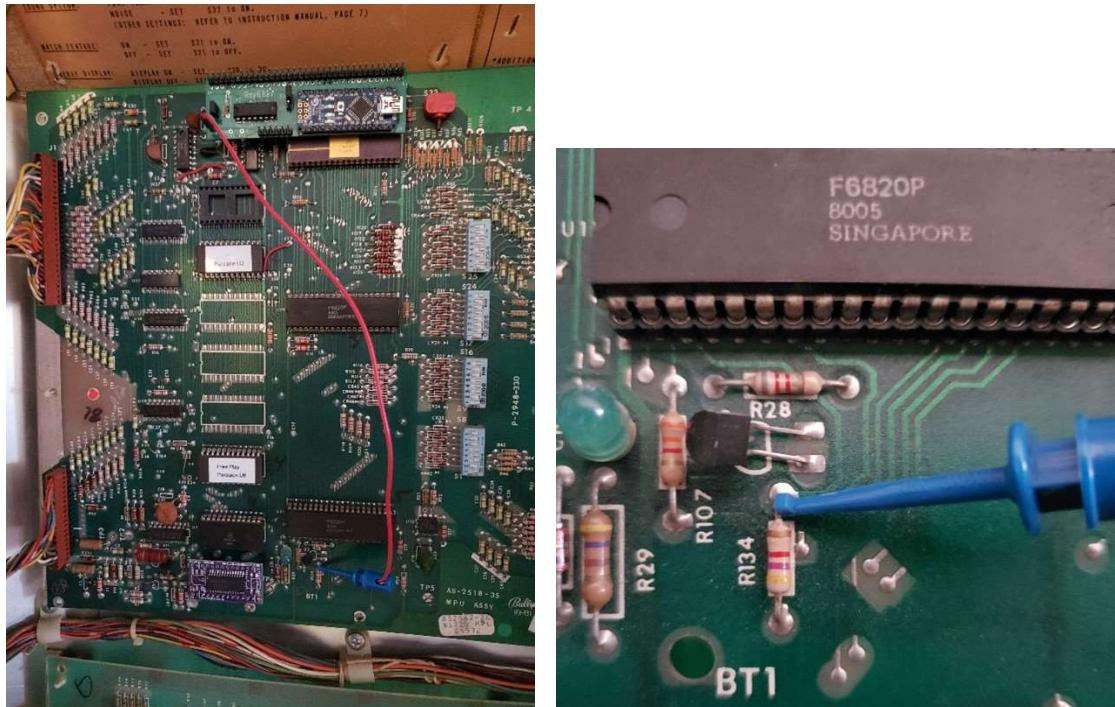

Figure 5
- b) Connect the push-release probe to the top lead of R134 on the MPU board. Figure 5 shows this in detail.